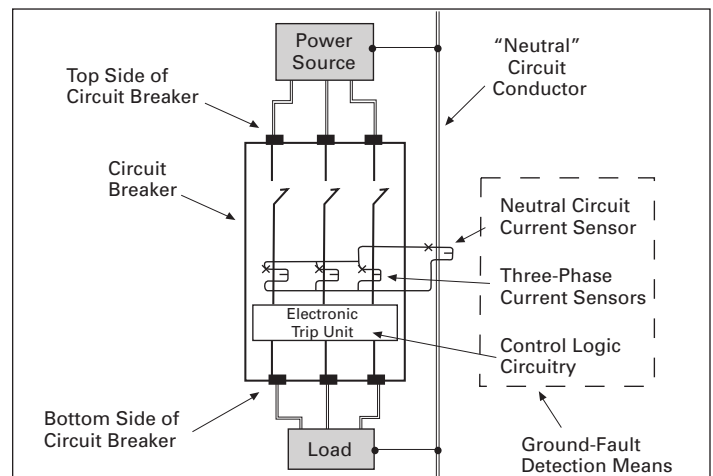

Figure 4. Circuit Breaker with Integral Ground-Fault Protection
1. Separate current sensors that monitor each phase circuit and the neutral circuit conductors, as shown in **Figure 4**